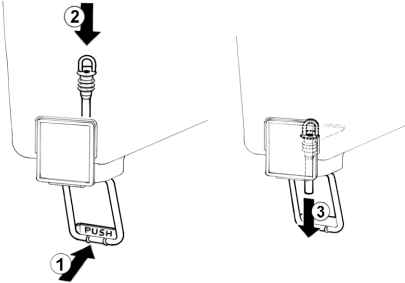

figure 4
2 Pinch tube faucet: push the dispensing handle (1) and insert the pinch tube into its vertical seat in the bowl bottom(2). Lightly pull the pinch tube end downwards til itl is well arranged (3) (see figure 4).